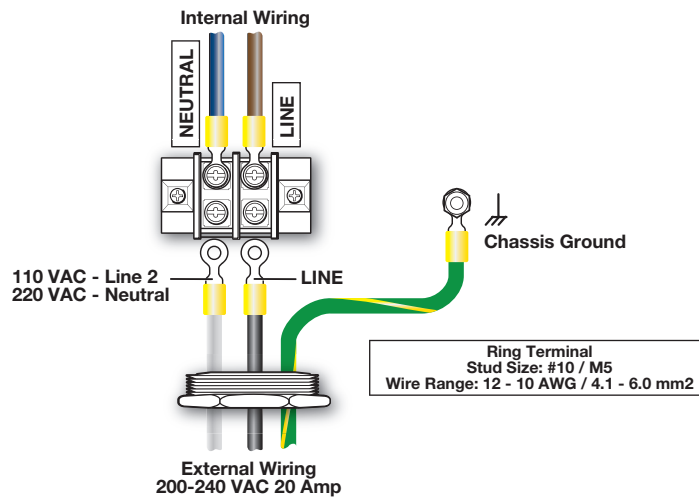

Figure 46. Power Connection and Cable and Ring Specifications
- Ensure that the replacement wiring is in accordance with the electrical code for the country or region where installed and the wiring color code in force for the installation site. See the wire and connector specifications in **figure 46** on page 88.
- Assurez-vous que le câblage de substitution installé soit conforme aux réglementations en matière d'électricité du pays ou de la région, et aux codes couleurs en vigueur dans le lieu d'installation. Consultez les spécifications du câble et du connecteur sur la **figure 46**, page 88.
8. Gently pull the ground cable through the rubber grommet into the power distribution box (②).
9. Unscrew the cable clamp on the power distribution box (③). Gently pull the exterior cable free of the power distribution box.
14. Connect the terminal lugs on the replacement cable to the terminal block inside the matrix switcher power distribution box (see figure 46 on the next page).
NOTE: Figure 46 also specifies the wire gauge and ring terminal and ground stud sizes.